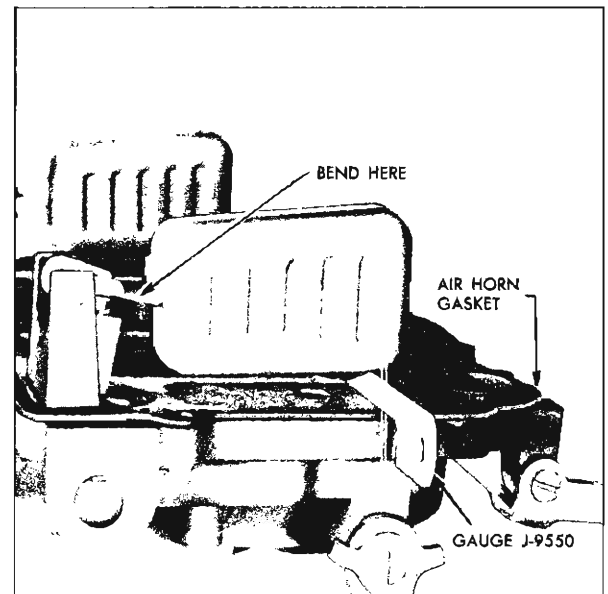

Fig. 31—Adjusting Float Level
6. Adjust Float Level. With air horn inverted and air horn gasket in place, check clearance between each float (at outer end) and air horn gasket using Float Gauge J-9550 chain set ($\frac{7}{32}$ ") or a $\frac{7}{32}$ " drill (fig. 31). To adjust, bend float lever. After any adjustment, recheck float alignment.